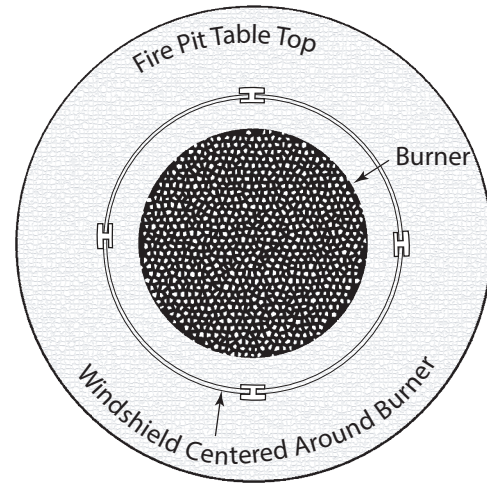

Fig. 10 Windshield installed.
STEP 4: Carefully place the windshield over-top of the fire pit centering around the burner into place (See Fig 10). Installation is now complete.